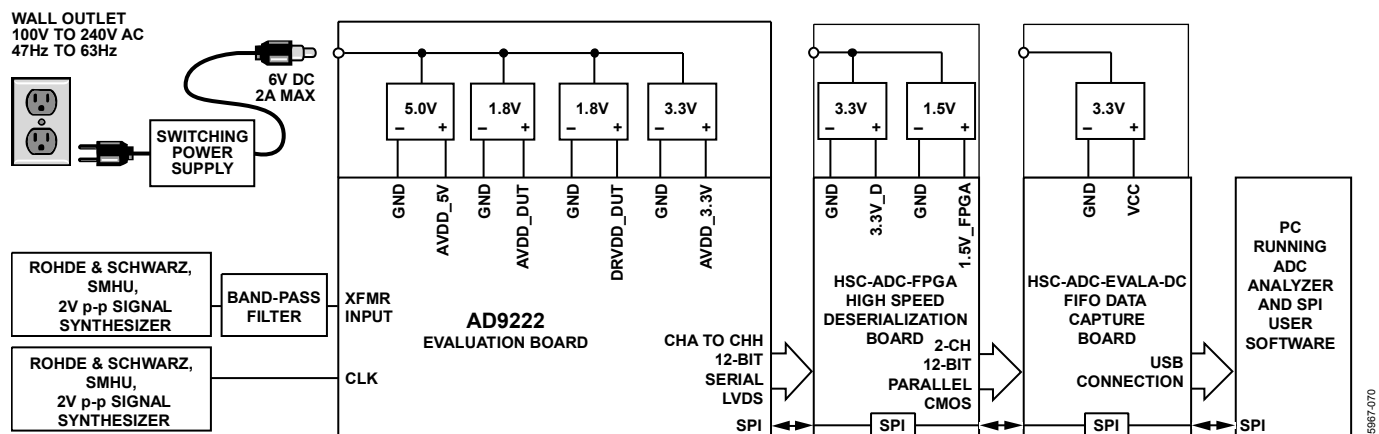
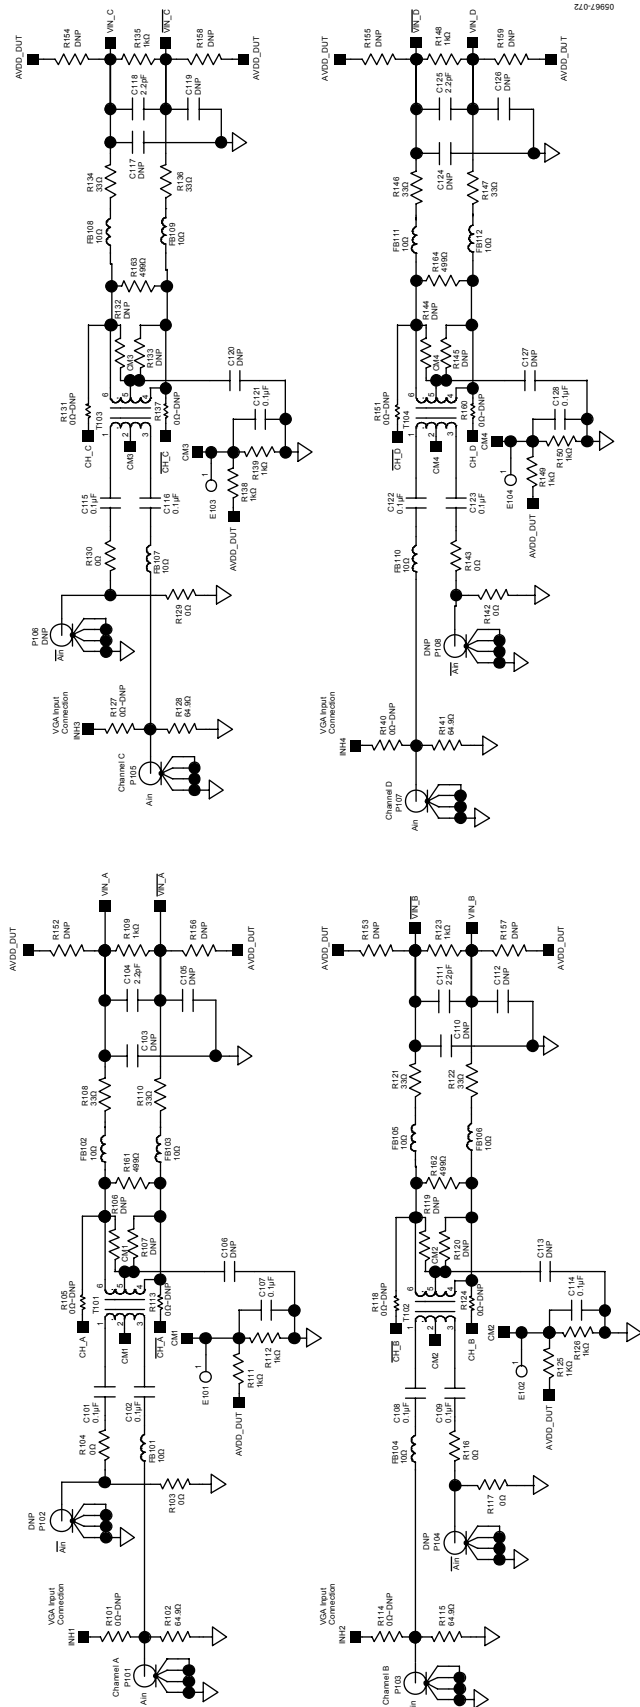
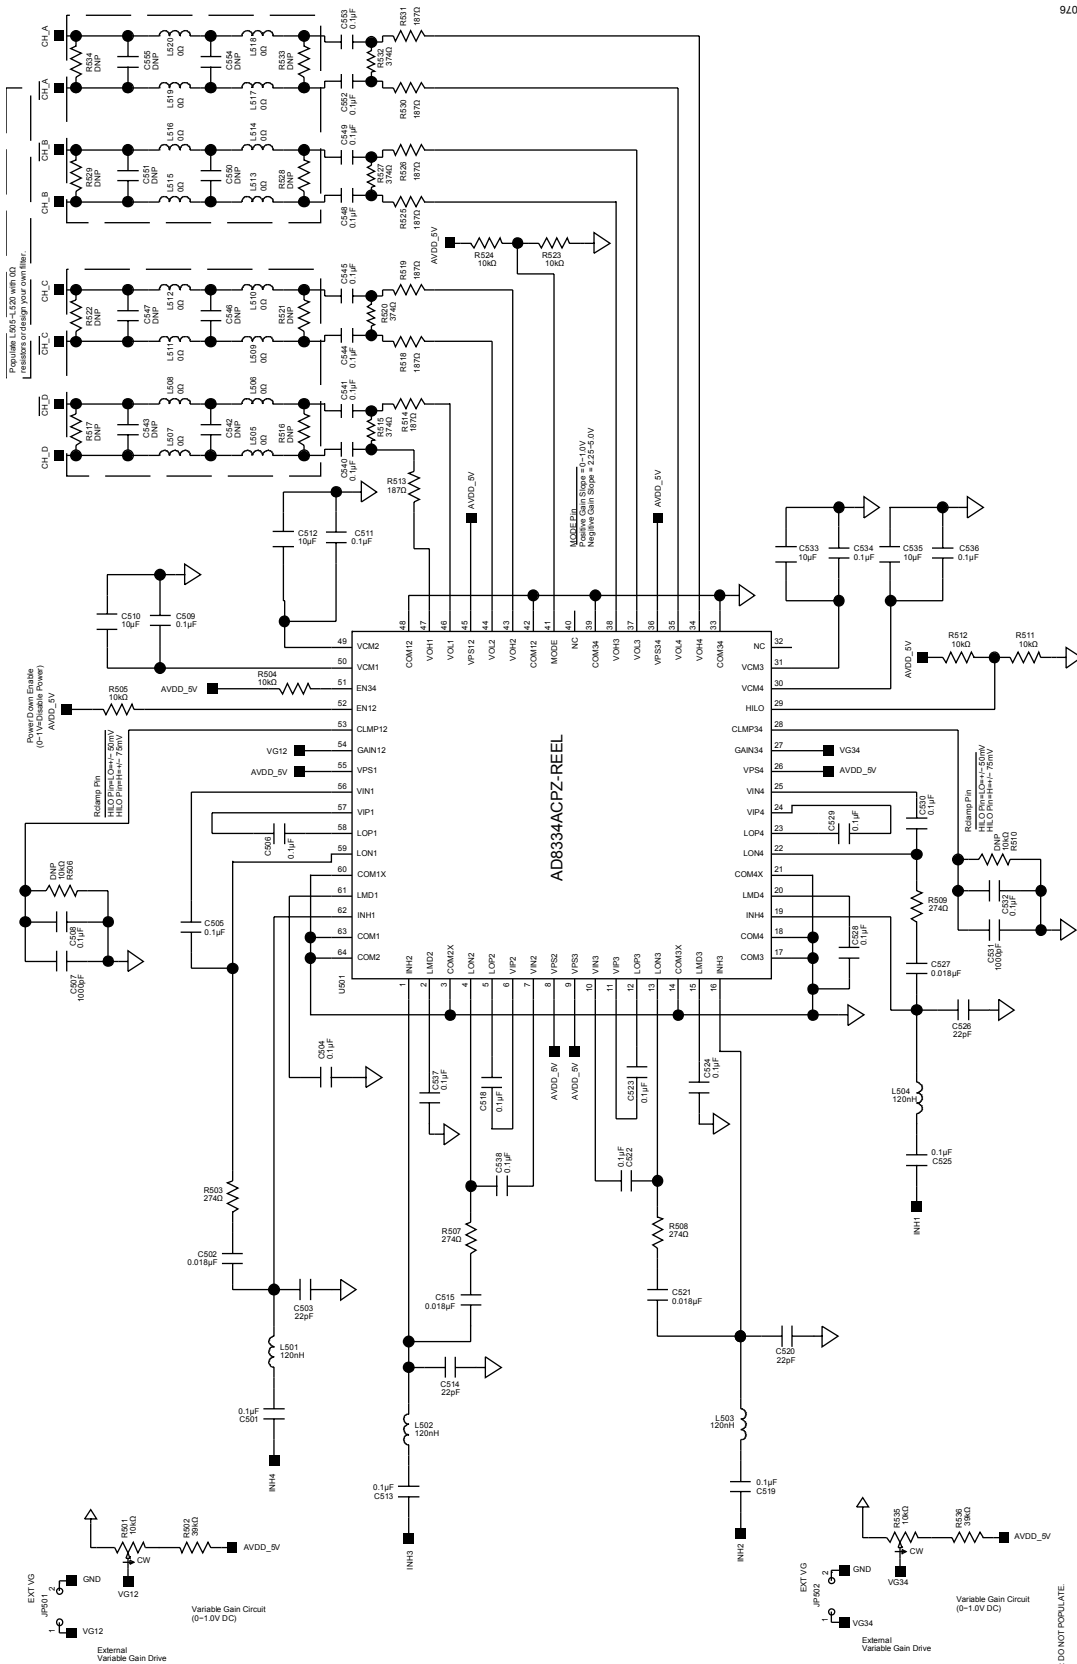

Figure 65. Evaluation Board Connection
Figure 67. Evaluation Board Schematic, DUT Analog Inputs
Figure 71. Evaluation Board Schematic, Optional DUT Analog Input Drive
The AD9222 evaluation board provides all of the support circuitry required to operate the ADC in its various modes and configurations. The converter can be driven differentially through a transformer (default) or through the AD8334 driver. The ADC can also be driven in a single-ended fashion. Separate power pins are provided to isolate the DUT from the AD8334 drive circuitry. Each input configuration can be selected by proper connection of various jumpers (see Figure 67 to Figure 71). Figure 65 shows the typical bench characterization setup used to evaluate the ac performance of the AD9222. It is critical that the signal sources used for the analog input and clock have very low phase noise (<1 ps rms jitter) to realize the optimum performance of the converter. Proper filtering of the analog input signal to remove harmonics and lower the integrated or broadband noise at the input is also necessary to achieve the specified noise performance.
See Figure 67 to Figure 77 for the complete schematics and layout diagrams that demonstrate the routing and grounding techniques that should be applied at the system level.
- **D+, D-:** If an alternative data capture method to the setup described in Figure 67 is used, optional receiver terminations, R318, R320 to R328, can be installed next to the high speed backplane connector.